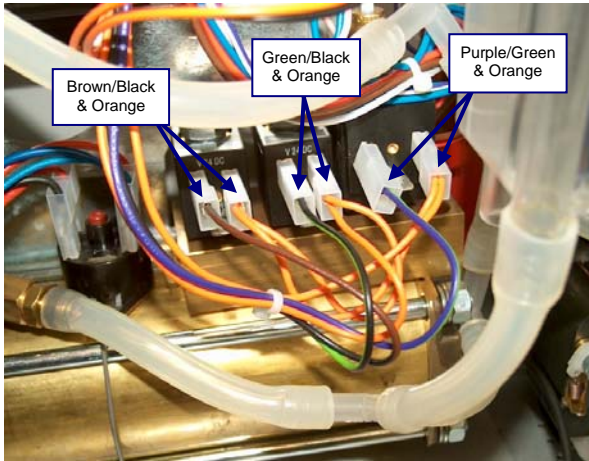
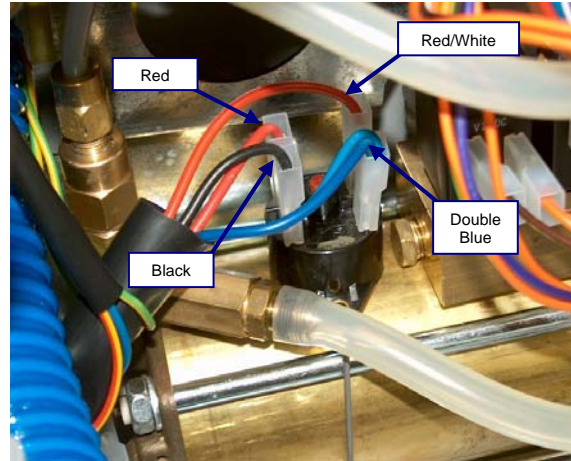
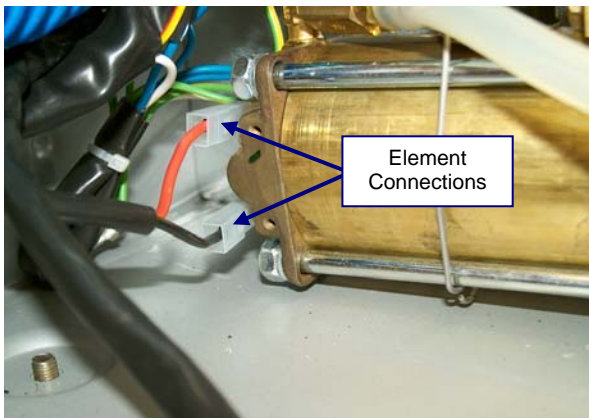
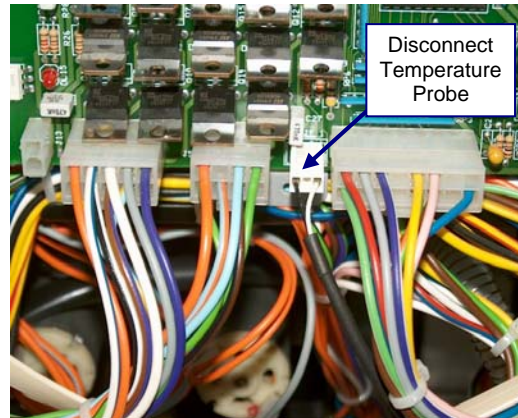

Fig. 3
Fig. 4
Fig. 5
Fig. 6
3. Disconnect the following cables: From the 3 valves, (Fig. 3), the safety temperature limiter, (Fig. 4). The heating element, (Fig. 5). Remove the temperature probe connection from the main board (Fig. 6)